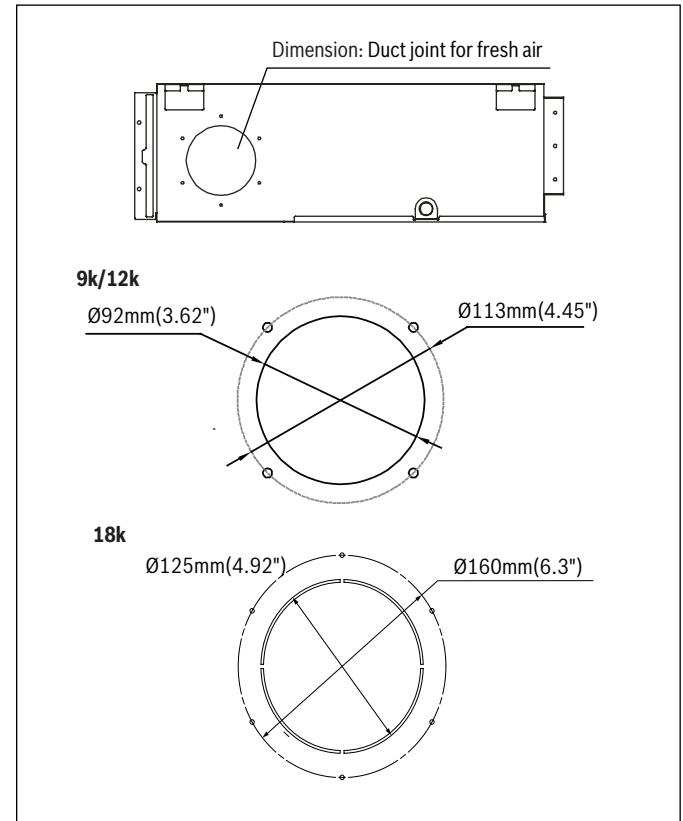

Figure 33
- Using a 65-mm (2.5 in) core drill, drill a hole in the wall. Make sure that the hole is drilled at a slight downward angle, so that the outdoor end of the hole is lower than the indoor end by about 12 mm (0.5 in). This will ensure proper water drainage (See Fig. 33). Place the protective wall cuff in the hole. This protects the edges of the hole and will help seal it once you finish installation.